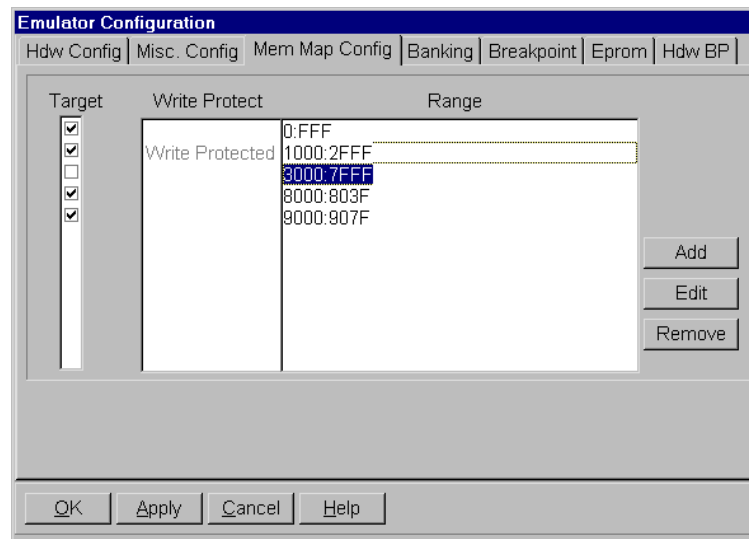

Figure 42. Memory Mapping Tab for the Bank-Switched Board
1. From the **Emulator Configuration** dialog box, click the **Mem Map Config** tab. The **Mem Map Config** view appears (Figure 42).